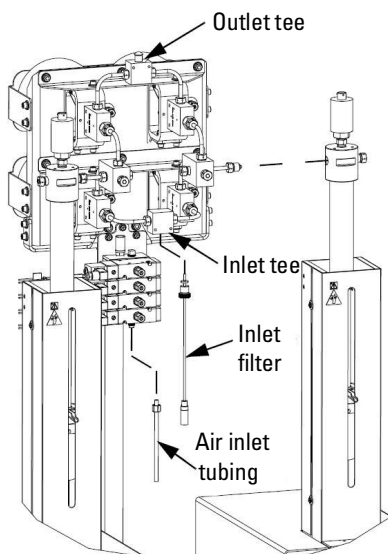

Figure 7: Assembly of air valve system
3. After removing the shipping plug use the pump connection tubing to connect from each pump to the 'tee' fittings on the valve assembly (Figure 7).